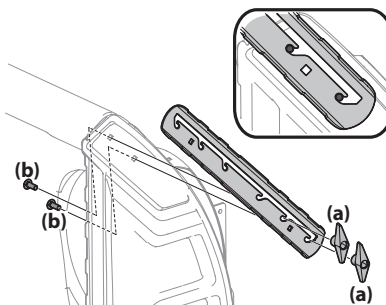

Figure 2-53
1. Remove two carriage bolts (a) and wing nuts (b) that secure each drift cutter, and remove them from the sides of auger housing. See Figure 2-53.
2. Turn the drift cutters around and position them as shown in Figure 2-53 to the outside of the auger housing.